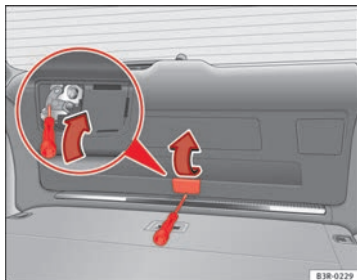

Fig. 77 Detail of the rear lid: emergency unlocking mechanism
- Lift the cover ⇒ Fig. 77 (arrow).
- Insert the screwdriver into the opening ⇒ Fig. 77 (arrow) and push it in the direction of the arrow in order to release the rear lid.